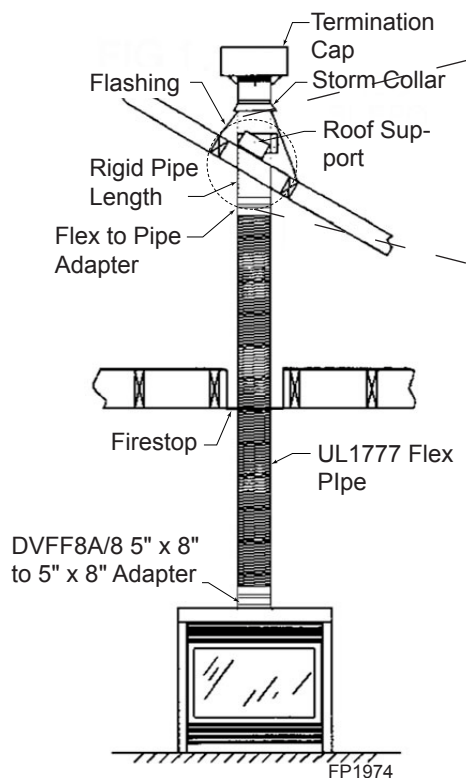

**Figure 38 -
- A. Installing the inner flex adapter and pipe. *Figure 38*
2. Install firestop spacers, *Figure 38*, when penetrating ceiling, attic spaces, or walls.
4. Use only listed and approved terminations and accessories, installed per the installation instructions and *Figure 38*.